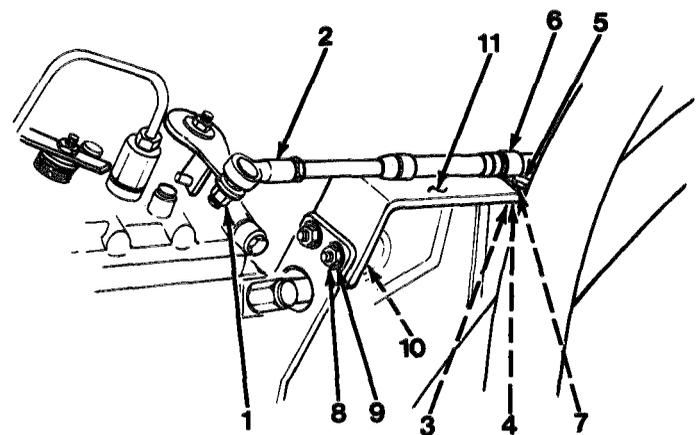

Figure 17-1
14. Install bracket (11), two capscrews (10), lockwashers (9) and nuts (8, Figure 17-1).
15. Install shim (7), clamp (6), two capscrews (5), washers (4) and nuts (3) to secure throttle cable (2) to bracket (1).
16. Remove nut (1) from throttle cable (2) and connect throttle cable (2) to fuel injection pump. Install nut (1).